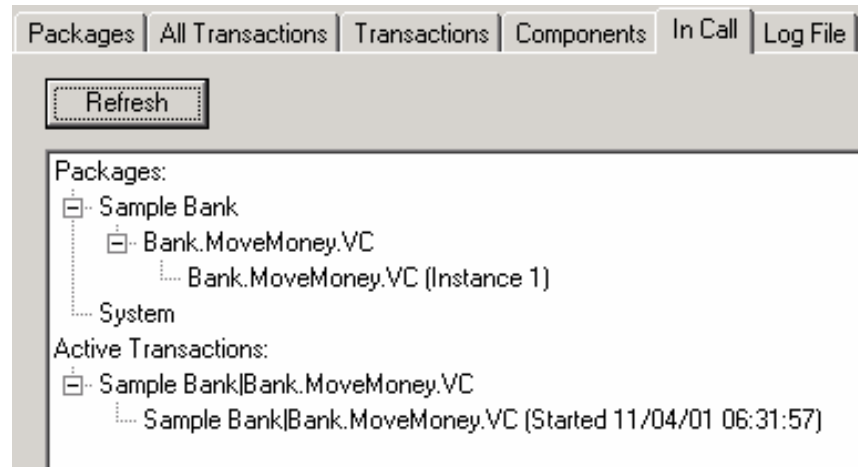

Figure 15
- Next select the **In Call** panel. The In Call panel shows all active applications, components, and methods in a tree view (see Figure 15).